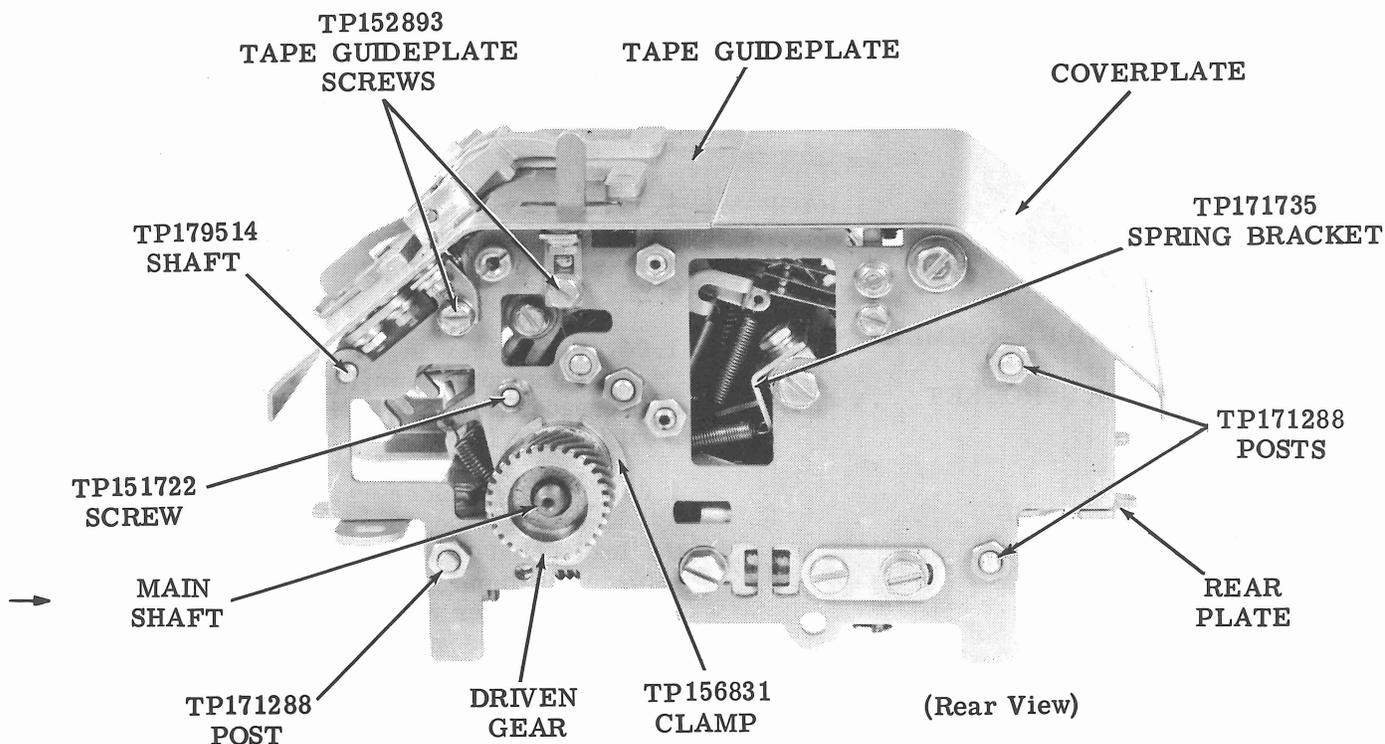
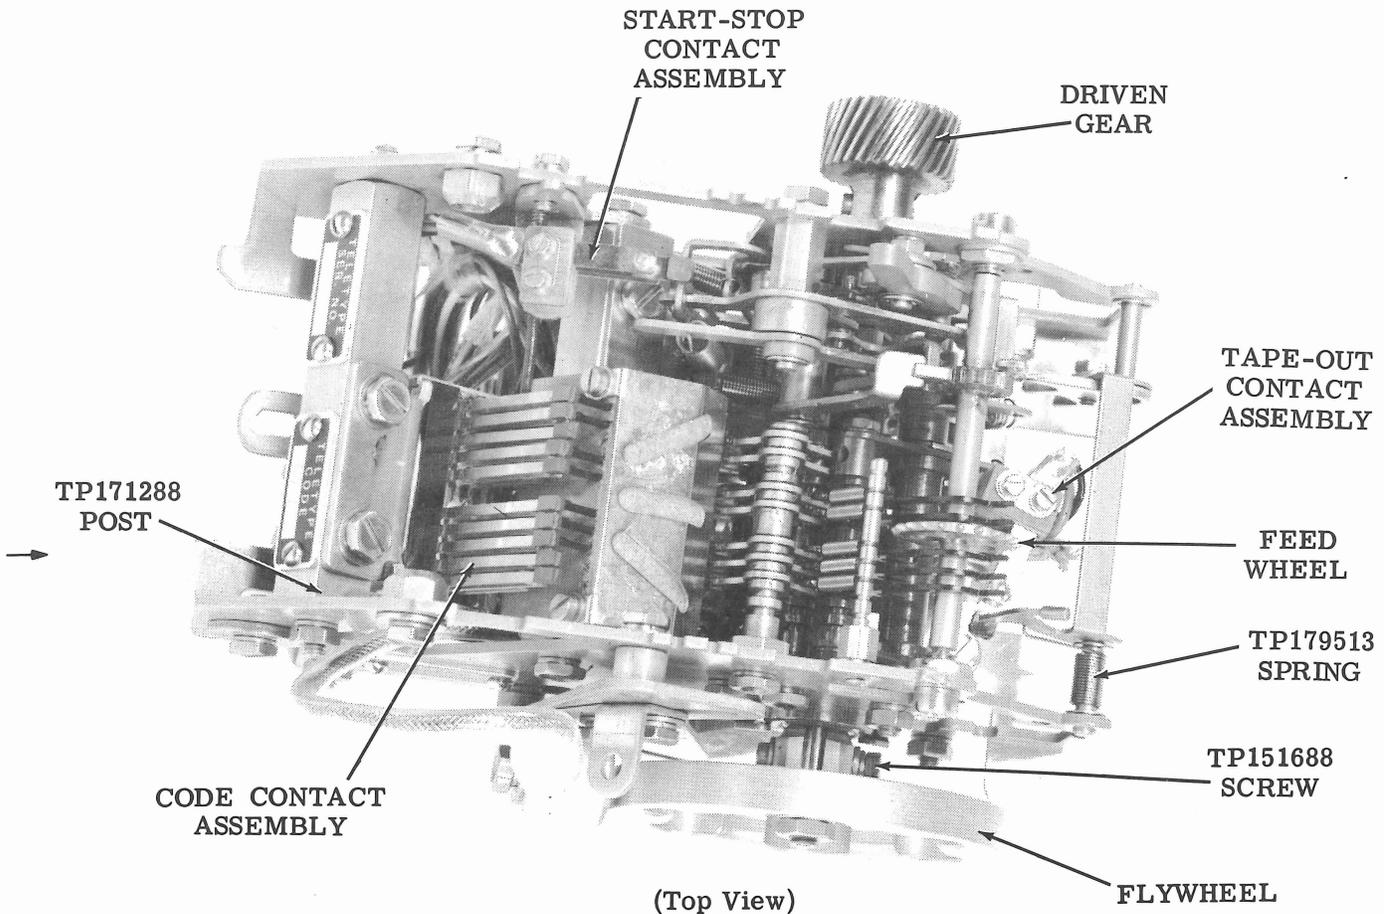

Figure 2 - Tape Reader Unit
Figure 4 - Tape Reader Unit (Plates Removed)
2.01 The driven gear (Figure 2) or driven sprocket is removed from the TP171731 main shaft as follows:
2.03 To remove the TP171731 main shaft, (Figures 2 and 5) proceed as follows:
(4) Remove the flywheel if so equipped.
(5) Remove the TP156501 screw, TP2191 lockwasher, and the TP156831 clamp from the front plate.
(6) Remove the TP151722 screw, the TP2191 lockwasher, and the TP156588 clamp from the rear plate (Figure 2).
(7) Guide the main shaft outward, toward the TP174125 rear plate, so that the TP130499 bearing is approximately one inch from the rear plate.
(8) If necessary, use a TP84020 bearing puller and remove the TP130499 rear bearing.
- (1) Unhook four springs from the TP171735 spring bracket (Figure 2).
- (2) Remove the three TP3598 nuts and TP2191 lockwashers that secure the rear plate to the three TP171288 posts (Figure 2).
(3) Remove the TP151722 screw, TP2191 lockwasher, and TP156588 retaining ring from the TP171732 rear plate (Figure 2).
(4) Remove the TP156740 screw and TP2191 lockwasher that secure the rear plate to the TP171707 post.
(5) On units so equipped, remove the TP119649 retaining ring from the TP179514 shaft (Figure 2).
(6) Unhook the TP171313 spring from the TP171898 bracket to release the magnet and rear plate assembly from the reader.
(7) Check that the stop lever is not engaged with the TP171252 feed pawl.
(8) On units so equipped, unhook the TP179513 torsion spring from the rear plate (Figure 4).
(9) Remove the rear plate assembly from the reader. If it is necessary to remove it completely, remove the operating magnet
(1) Remove the two TP156740 screws, two TP2191 lockwashers, and two TP7002 flat washers that secure the code contact assembly to the TP171288 post. See Figure 4.
(2) It is now possible to move the code contact assembly about two inches outside of the reader.
(3) Unsolder and disconnect the cable assembly leads from the code contact assembly terminals.
(1) Unsolder and remove the cable assembly from the tape-out contact assembly (Figure 4).
(2) Remove the two TP152893 screws, two TP3640 lockwashers, and two TP125011 flat washers from the TP171256 assembly mounting bracket.
- (1) Unsolder and disconnect the leads from the TP171237 start-stop contact assembly (Figure 4).
- (2) Remove the two TP152893 screws, two TP3640 lockwashers, and two TP125011 flat washers that secure the bracket to the rear plate.
- (3) Remove the TP171237 start-stop contact assembly from the reader.
2.15 To remove the coverplate, lift its left side and carefully pull it off the left side of the reader (Figures 2 and 3). To remove coverplate assembly TP328425 from reader unit CX807, loosen mounting screws on each side.
- (1) Loosen the four TP152893 screws securing the tape guideplate brackets to the front and rear plates (Figure 2).
- (2) Gently lift the tape guideplate off the reader.